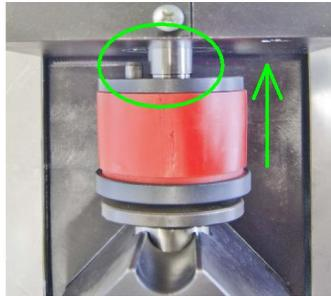

Fig. 61
- Install hole punching stamp to the body matching socket punch with seat in the piston rod (Fig. 61)